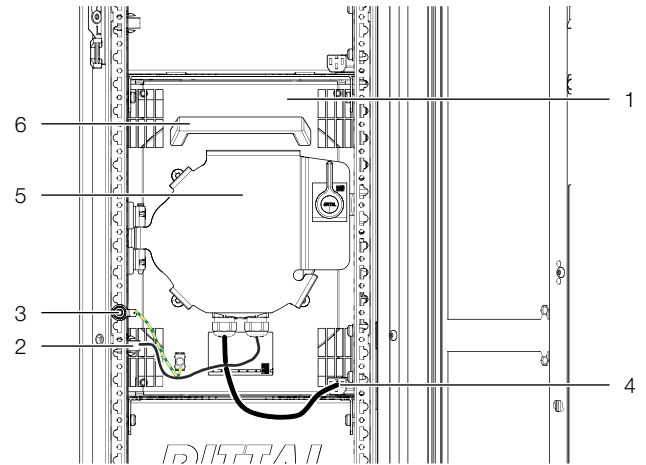

Fig. 47: Fan module in fan tray
- Release the two fan connectors DC and AC on the left and right (fig. 47, item 2 and 4).
- Disconnect the earth connection on the fan (fig. 47, item 3).
When making the connection, ensure that both cables of the fan are not routed too close parallel to each other over longer paths. Fig. 47 shows an optimum laying of the cables.